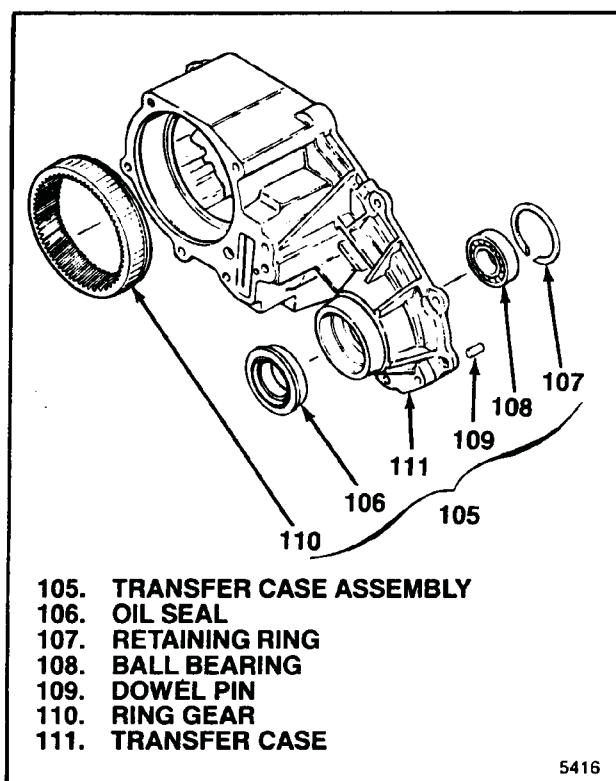

Figure 3-13. Transfer Case Assembly
- Slide electric shift cam (100) off shift shaft (103).
- Clamp retainer end of shift shaft (103) in soft-jawed vise. Keeping fingers away from spring ends, pry torsion spring (101) out of engagement with shaft drive tang using a screwdriver. Remove torsion spring and spacer (102) from shift shaft.
3-18. DISASSEMBLY OF TRANSFER CASE ASSEMBLY. Disassemble transfer case assembly (105) as follows (see figure 3-13):
- Pull oil seal (106).
- Remove retaining ring (107) and pull ball bearing (108).